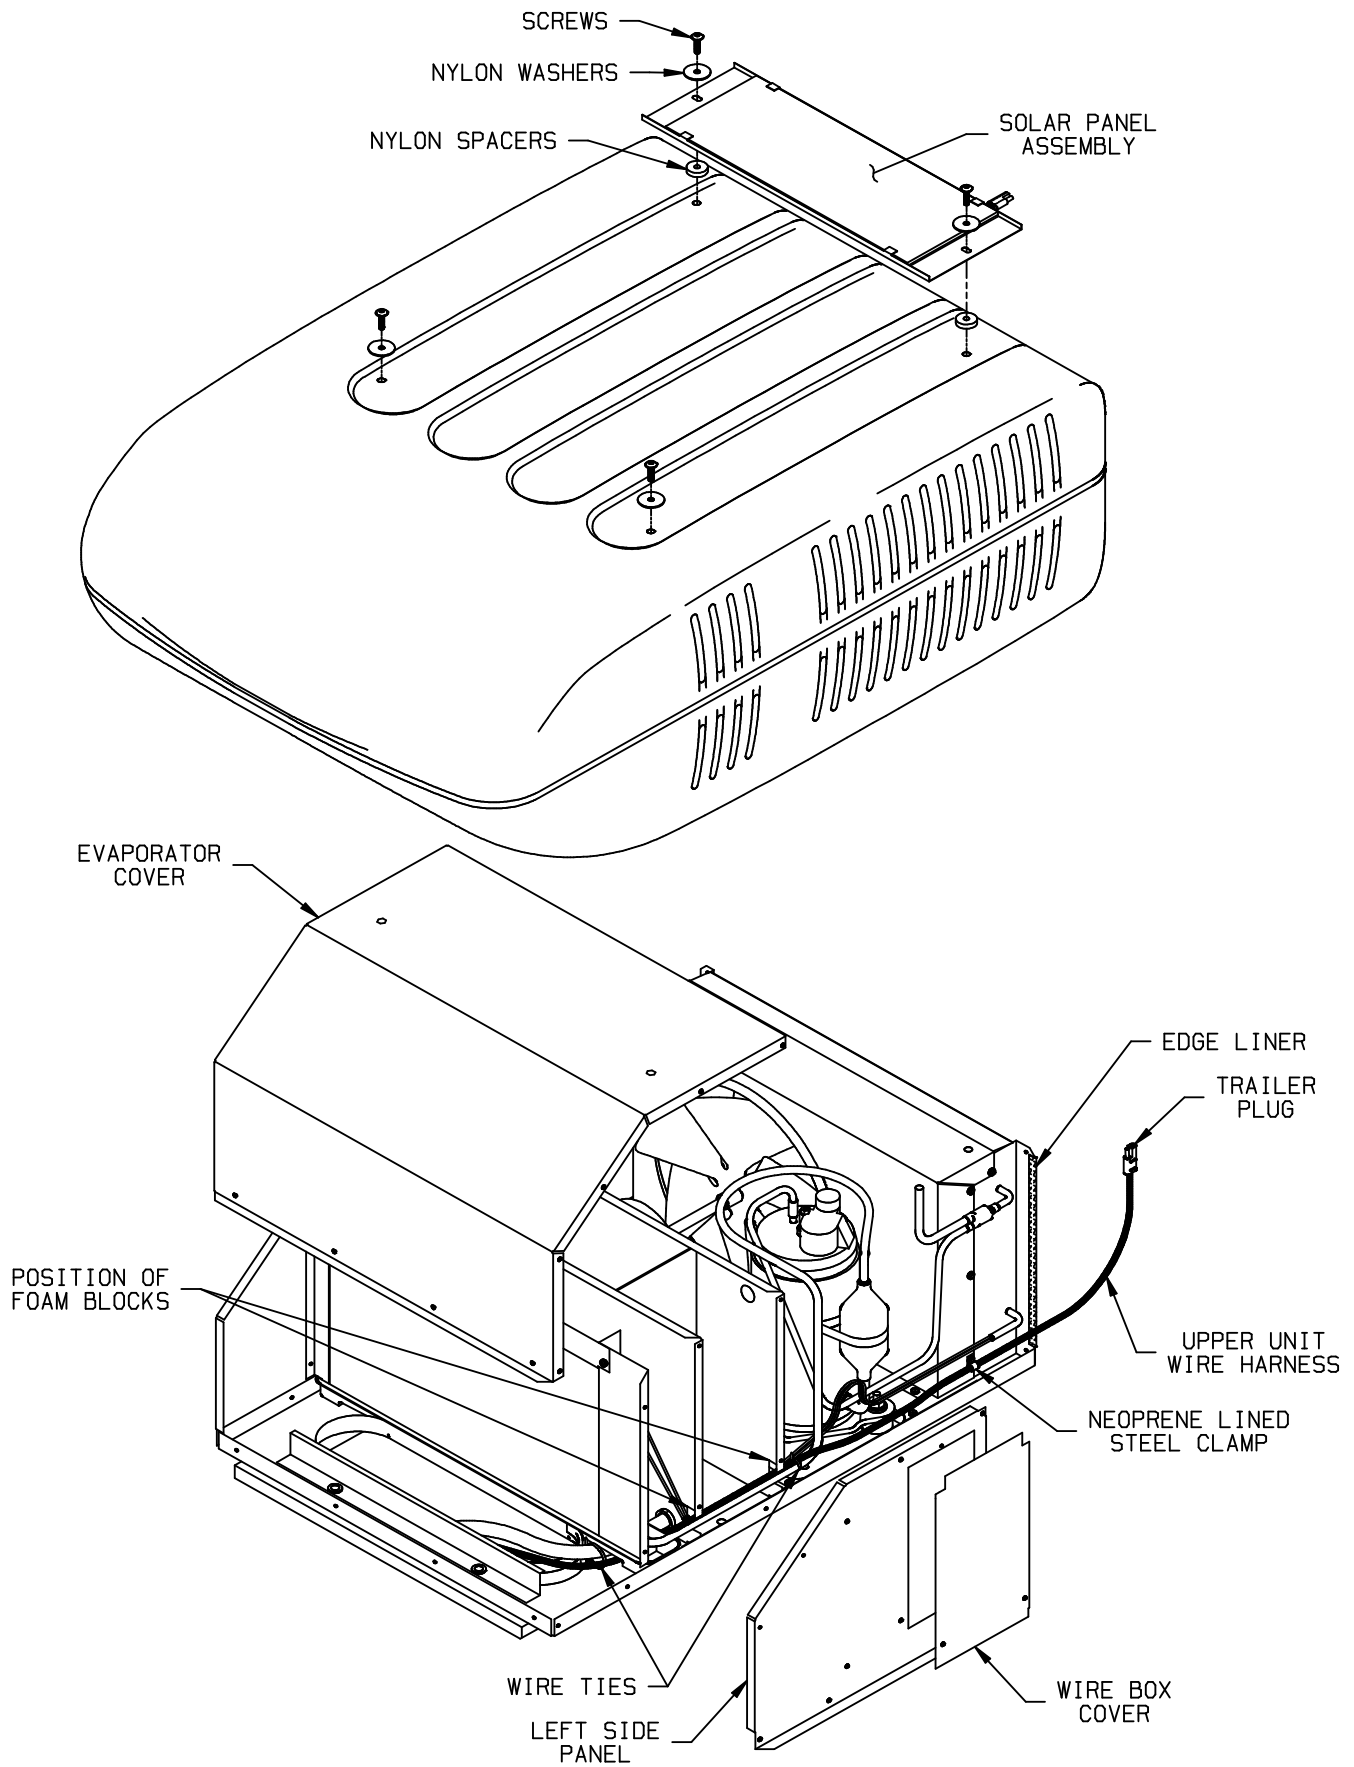

FIGURE 2
To install the solar panel and through-way wiring of this kit to 7000 and 8000 series air conditioners, perform the following steps (refer to Figure 2).
4. Remove the left side panel and wirebox cover (as shown in Figure 2) and set aside.
5. Using the neoprene lined steel clamp provided in this kit, secure the upper unit wire harness to the condenser panel as shown in Figure 2. Allow 24" between the clamp and the end of the trailer plug.
6. Attach the protective edge liner to the condenser flange by forcing the liner onto the metal edge as shown in Figure 2. Insure that the edge liner is securely installed. Cut off any excess edge liner length which may extend beyond the condenser header plate. Use a diagonal cutter for this purpose as the edge liner contains spring steel sections. **Wear eye protection when cutting edge liner.**
7. Route the solar harness along the liquid line and capillary tube(s) and through the foam blocks as shown in Figure 2. Secure the solar harness to the large refrigeration line (suction line) using a wire tie found in this kit. It may be necessary to remove and reinstall the foam blocks in order to route the solar harness through the blocks.
10. Before reinstalling the shroud, position the trailer plug and solar harness outboard of the condenser coil so that it may be routed through the condenser air inlet of the shroud as the shroud is being reinstalled (See Figure 2). The harness will be trapped between the shroud foam blocks and the edge liner after installation.
11. Position the nylon spacers and the solar panel assembly as shown in Figure 2 and fasten to the roof with the stainless screws and nylon washers removed in Step 2.